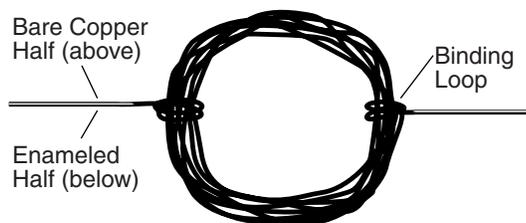

Figure 2. Coil Armature
4. To secure the loop shape permanently, wrap each free end through the loop and around the coil of wire 2 to 3 times. Make sure the binding loops are 180° apart and wrapped tightly around the coil wires. Straighten the free ends so that they are perpendicular to, but in the same plane, as the coil to serve as the axle to the coil armature (see Figure 2).
6. Obtain a small piece of sandpaper. Hold the coil at the edge of a table so the coil is straight up and down and one of the free ends is lying flat on the table. With the sandpaper, sand off the top half of the insulating enamel. Leave the bottom half of the enamel intact. Do the same to the other free end. make sure the shiny bare copper side faces up on both ends. See Figure 2.